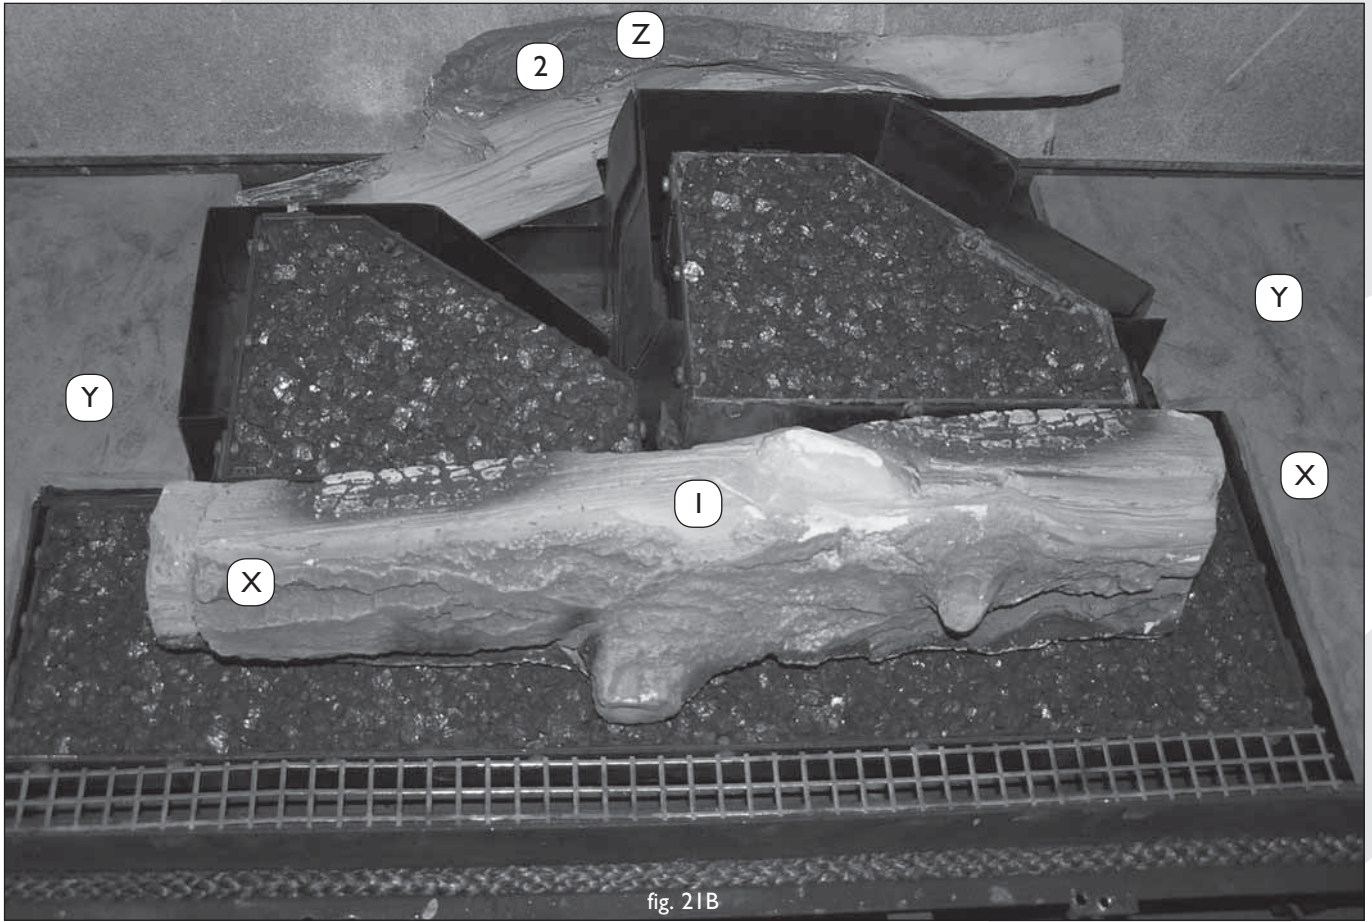

fig. 21B
- Position logs 1 and 2 as shown in fig. 21B. Make sure log 1 is laid against the notches (Y) so that the distance X is more or less the same both left and right. Lay log 2 on the log support (Z) on the air duct divider (C).